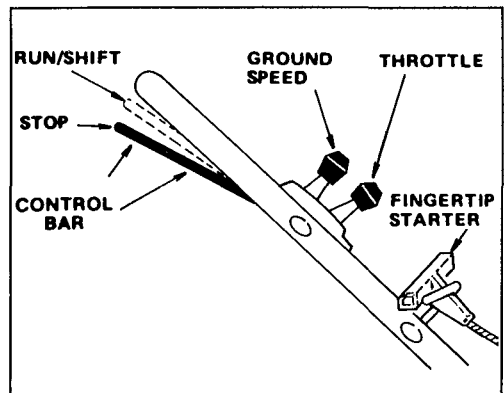

Figure 9
1. **CONTROLS**—Throttle, ground speed control (self-propelled model), control bar, and fingertip starter are on upper handle (Fig. 9).
and throttle to CHOKE. Lift control bar to RUN/SHIFT position (Fig. 9) and hold. Pull fingertip starter out until positive engagement results; then pull vigorously to start the engine. Regulate throttle (Fig. 9) as desired when engine starts.
4. **GROUND SPEED** (self-propelled model only) (Fig. 9)—Move ground speed control to desired setting. Number "1" is slow, "2" is medium, and "3" is a fast walking pace. Move ground speed control to "N" when using the mower for trimming and whenever leaving mower.
5. **WHEEL TRACTION OPERATION** (self-propelled model only) (Fig. 9)—Move control bar to the RUN/SHIFT position. Move ground speed control to desired setting and squeeze control bar against handle to drive.